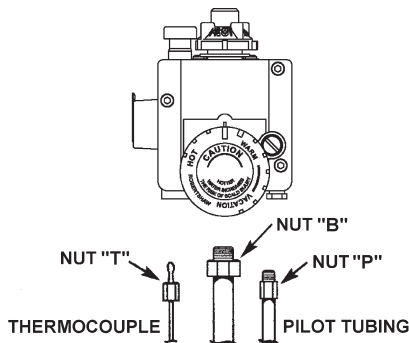

FIGURE 23.
10. Loosen flare nut "T" holding to bottom of gas valve with 3/8" open-end wrench and pull down to remove, see Figure 23.
11. Loosen flare nut "P" holding pilot line to bottom of gas valve with 7/16" open-end wrench and pull tube down to remove, see Figure 23.
12. Loosen flange nut "B" holding burner tube to bottom of gas valve with 3/4" open-end wrench and pull down to remove, see Figure 23.